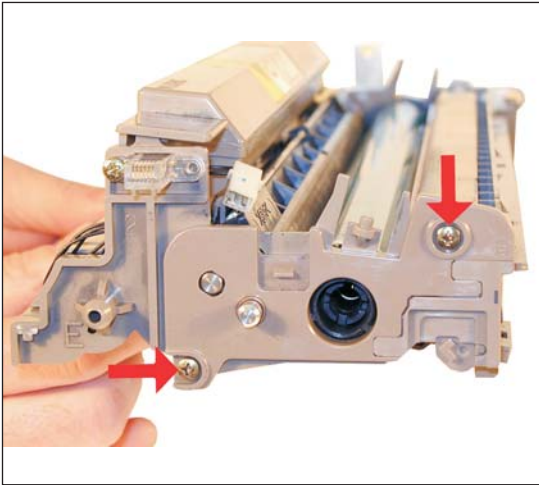

Figure 51
38) Install the end cap and screws on the contact side of the cartridge. See Figure 51